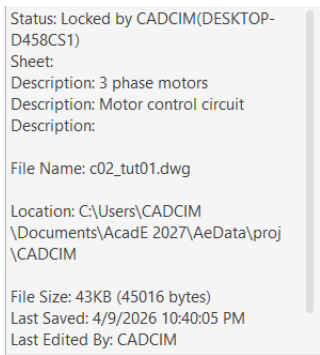

Figure 2-65 The *Details* rollout displaying the description of C02_tut01.dwg
6. Choose the **OK** button from the **Create New Drawing** dialog box; you will notice that the drawing that you created gets added to the active project. To view the drawing that you created, double-click on **CAD/CIM** in the **PROJECT MANAGER**; the drawing list is displayed and the drawing **C02_tut01.dwg** appears in bold text in the **PROJECT MANAGER**. In this case, the active project is **CAD/CIM** and therefore, the drawing gets added to this project. Click on the drawing; the details and the preview of the drawing are displayed in the **PROJECT MANAGER**, as shown in Figures 2-65 and 2-66.